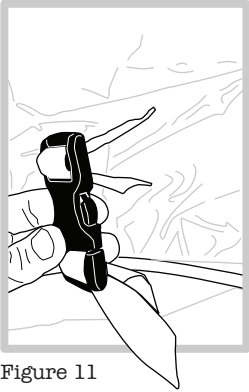

Figure 11
7. Attach the buckles with One-Wrap® to the rails as shown below (Figures 11, 12).